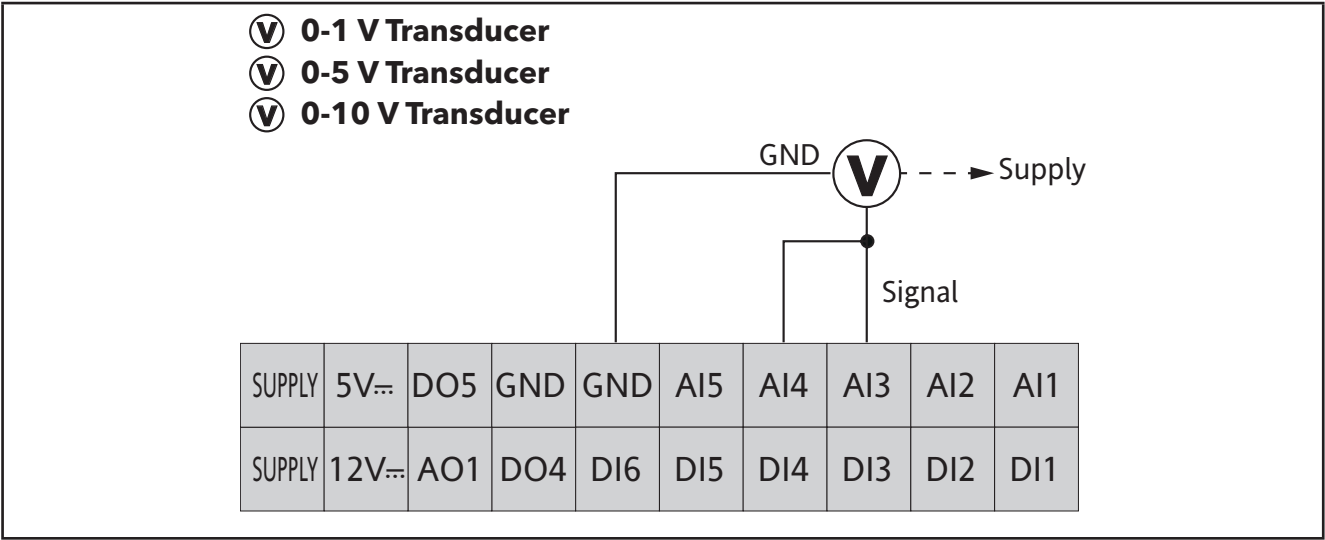

Fig. 17. Voltage input connection
**NOTE:** In Fig. 17 on page 27, Supply: transducer power supply from **EWCM 436D PRO** (5 V or 12 V).